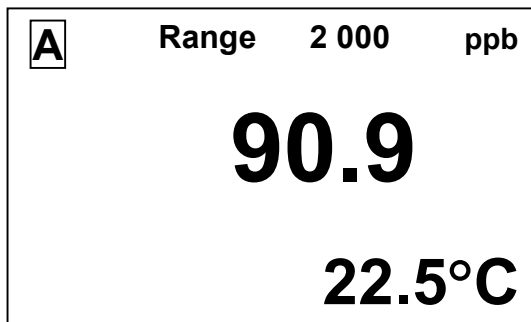

Fig. 1.5
- single channel (A or B) measurement display shown in Fig. 1.5;